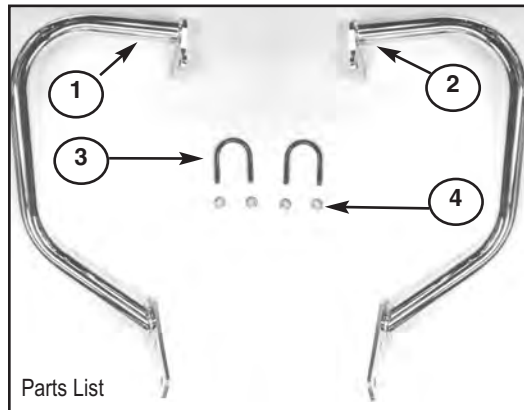

Figure 1
3. Remove the two lower frame mounting bolts on the right side of the foot peg (14mm Socket.) These bolts will be re-used. **Figure 1.**